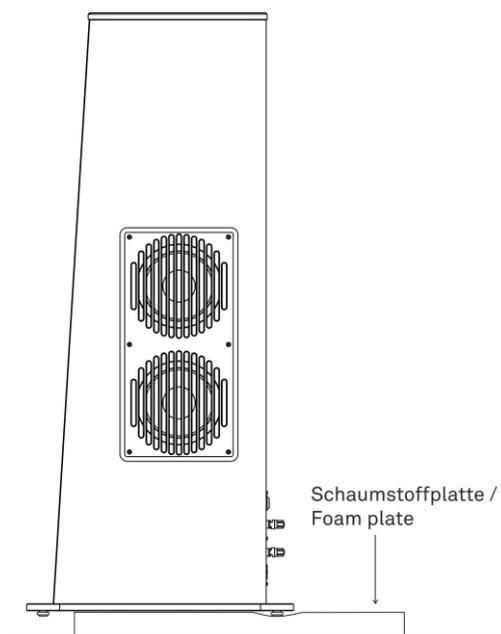

Fig. 4
- Put the **CWT 1000-40** aside and place the foam plate (56x70 cm) from the transport packaging in the previously determined position. Position the plate so that the front feet of the plinth plate protrude (see Fig. 4).